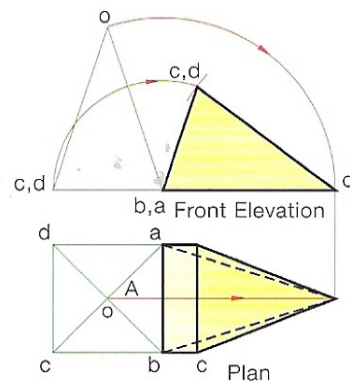

Fig. 5.7
- (3) Rotate points c and d about ab in elevation.
- (4) The length from o to cd in the original elevation is used in the new elevation to locate c and d in the new elevation, Fig. 5.7.